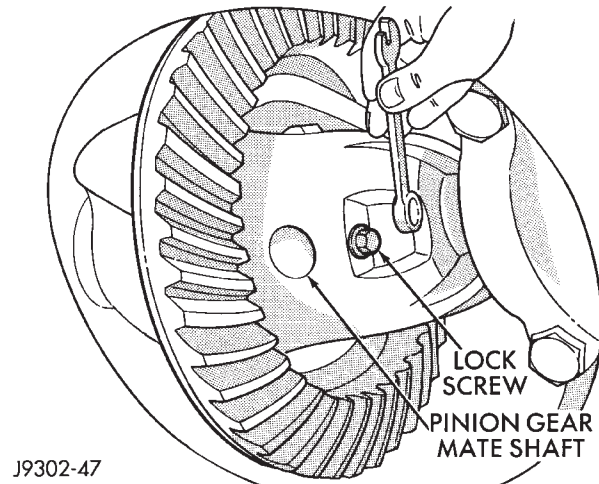
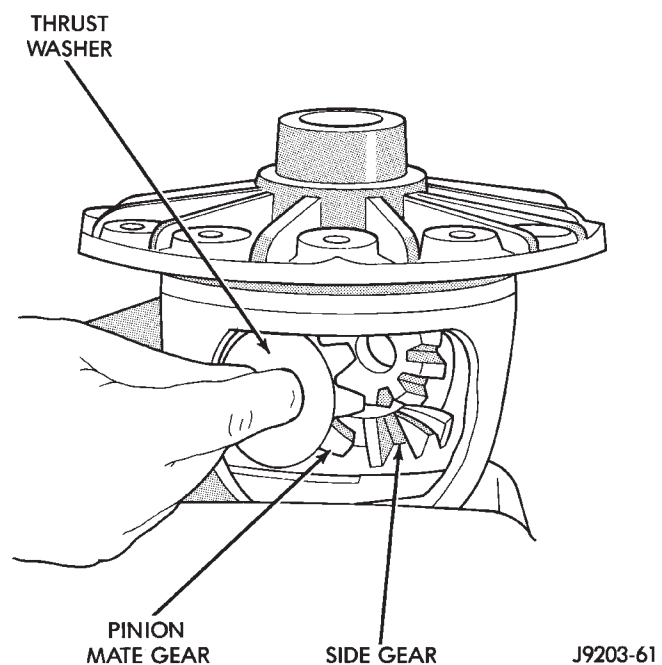

Fig. 39 Pinion Gear Mate Shaft Lock Screw
Fig. 40 Pinion Mate Gear Removal
(1) Remove pinion gear mate shaft lock screw (Fig. 39).
(2) Remove pinion gear mate shaft.
(3) Rotate the differential side gears and remove the pinion mate gears and thrust washers (Fig. 40).
(4) Remove the differential side gears and thrust washers.